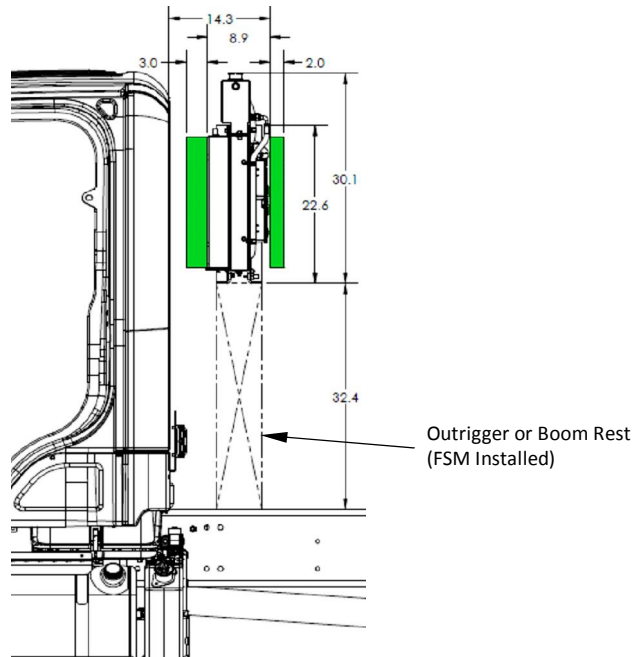

Figure 8. Outrigger or boom rest-mounted cooling system (non-standard location)
- The cooling system can be relocated by the FSM to the outrigger or boom rest if needed to minimize wheelbase length (Figure 8).
- Odyne will provide additional lengths of wiring and hosing to accommodate the relocation height and distance from the cab shown below (Figure 8). Consult Odyne if additional length is needed.